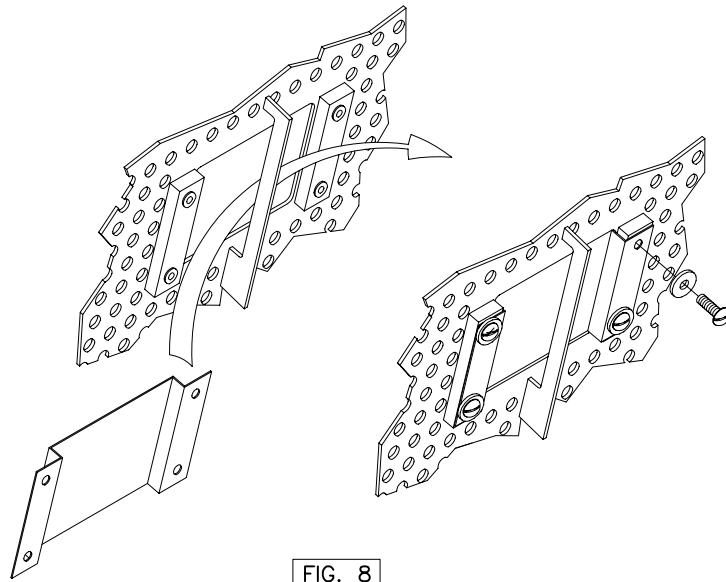

FIG. 8
After engraving is complete, assemble plaque (E1) to the (A9–A10) bench using four (K) machine screws and one (L) per each machine screw, see Fig. 8. Thread plaque between center bracket and window of bench panel. Align holes, insert screws and tighten.